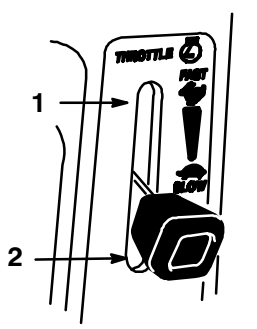

Figure 5
5. Move throttle lever to “FAST” (Fig. 5).
- Move the throttle lever to “SLOW” (Fig. 5).